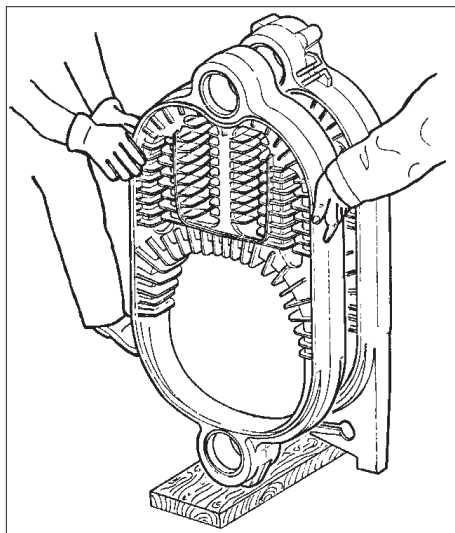

Fig. 10
4.06 (Fig. 10) Near the first intermediate element to the rear element.